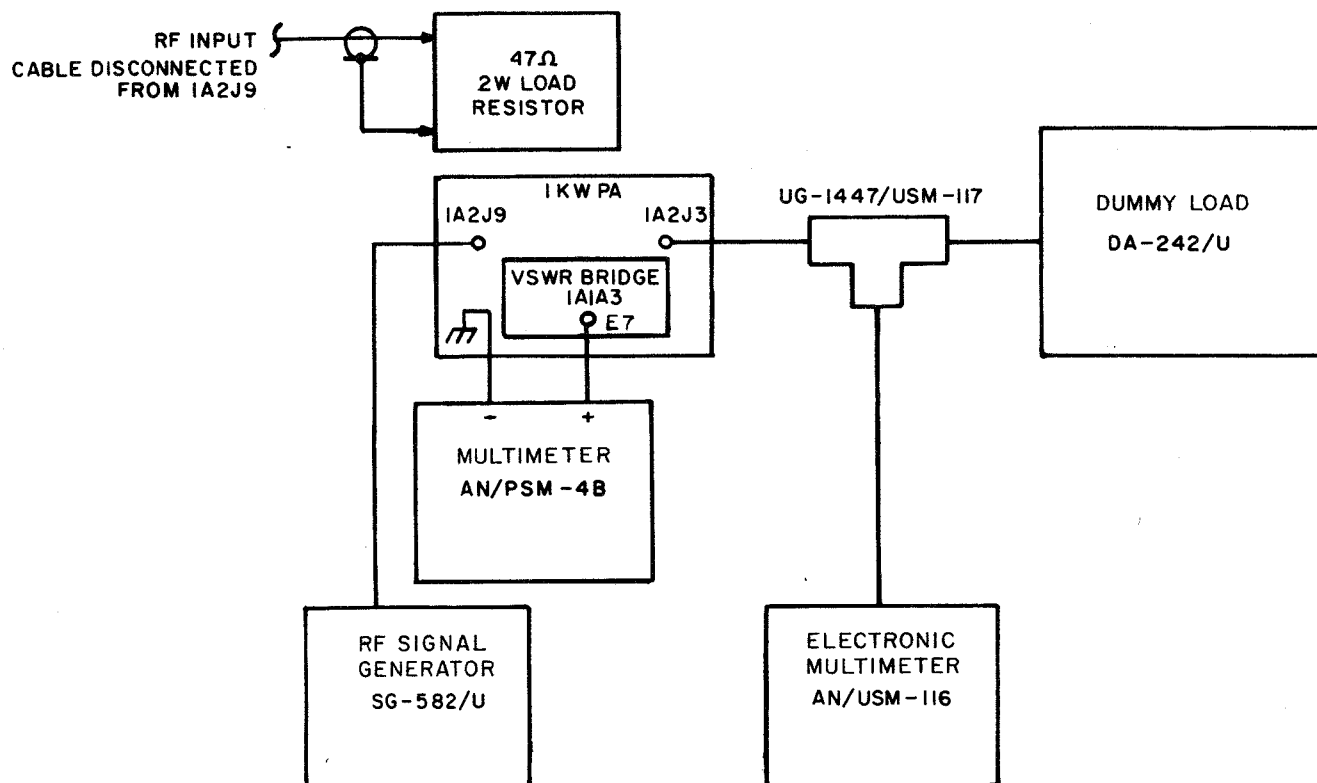

Figure 5-1. 1 KW PA VSWR Bridge Alignment Setup
- f. Connect RF Signal Generator SG-582/U to 1 KW PA RF input connector 1A2J9 (figure 5-1). Set SG-582/U for minimum output at 21 MCS with no modulation (CW).